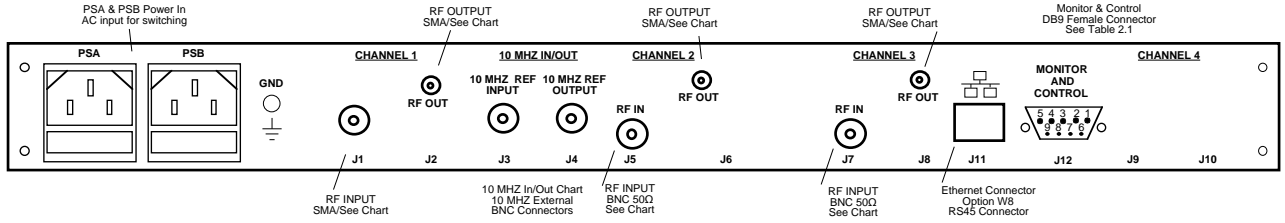

FIGURE 2.2 3115-33-95 Rear Panel I/Os
Figure 2.2 shows the input and output connectors on the rear panel.
1. Connect a -30 dBm to 10 dBm signal to RF IN, J1 (Figure 2.2).